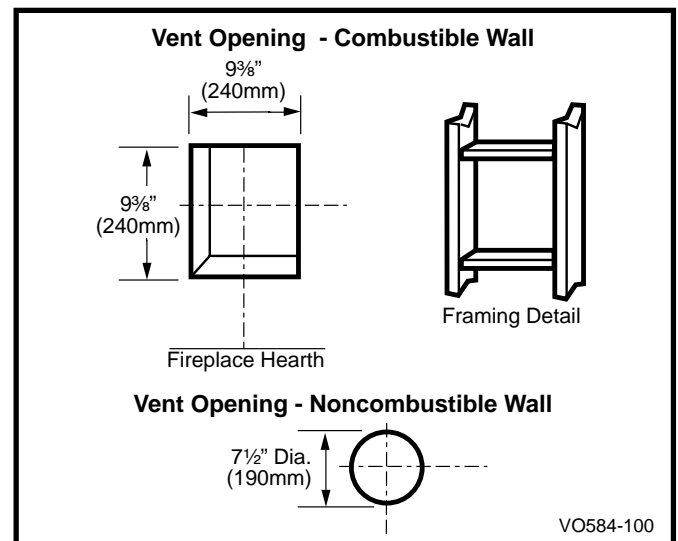

Fig. 27 Locate vent opening on wall.
For combustible walls, first frame in opening. (Fig. 27)
1. Establish vent hole through the wall. (Page 17, Fig. 27)